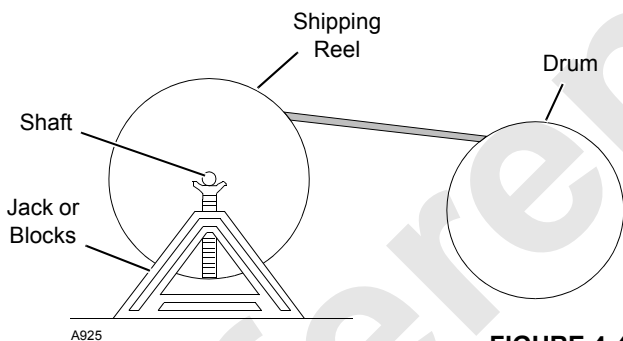

FIGURE 4-46
1. Mount wire rope shipping reel on a shaft supported at both ends by jacks or blocks as shown in Figure 4-46.